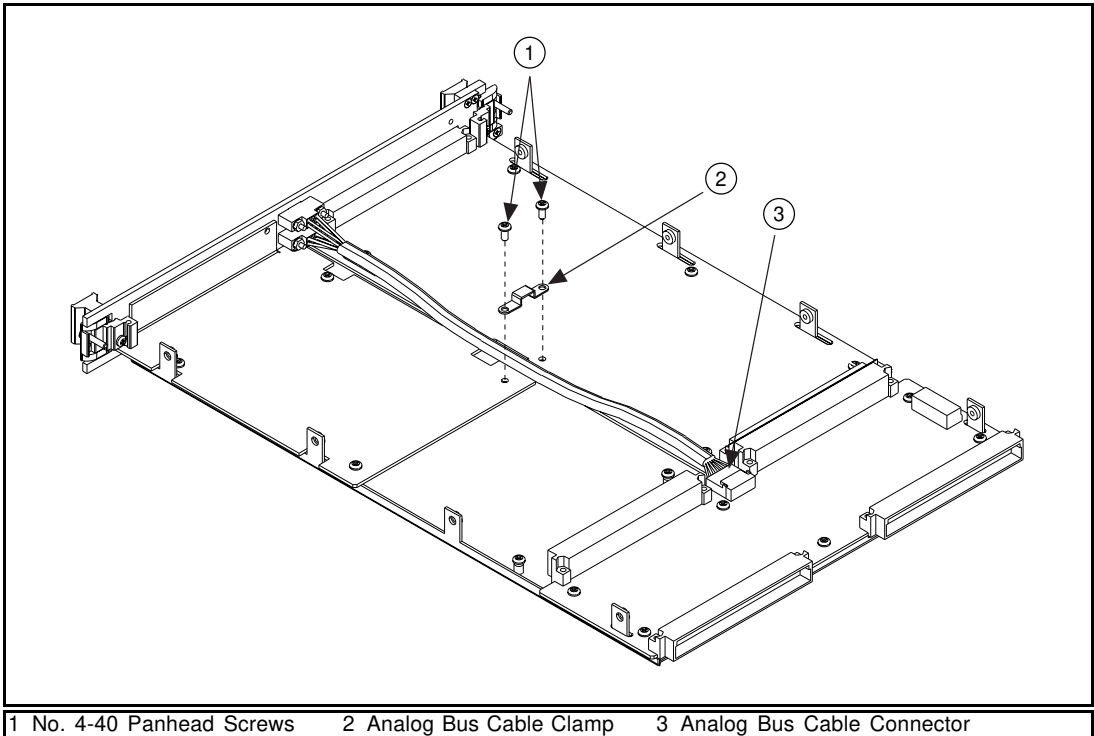

Figure 7. Installing the Analog Bus Cable and Clamp
5. Reconnect the analog bus cable connector (Figure 7, item 3) to the rear of the carrier board as shown. Install the cable clamp (item 2) using two No. 4-40 panhead screws (item 1) supplied in your hardware kit.